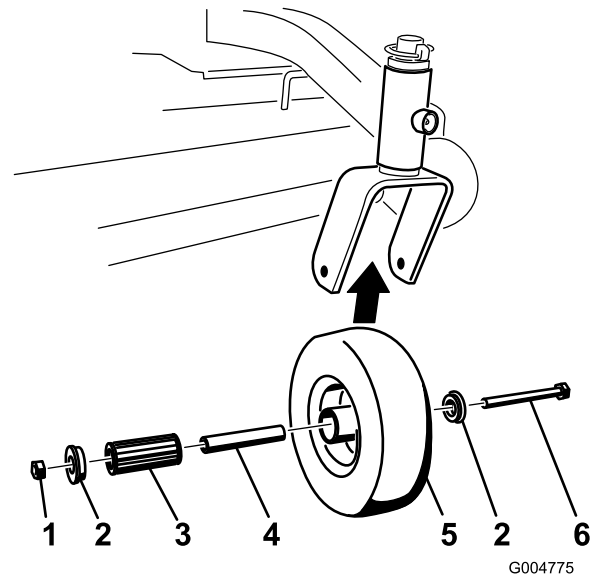

Figure 45
- Remove one bushing, then pull the spanner bushing and roller bearing out of the wheel hub (Figure 45).
- Remove the other bushing from the wheel hub and clean any grease and dirt from the wheel hub (Figure 45).
- Inspect the roller bearing, bushings, spanner bushing and inside of the wheel hub for wear. Replace any defective or worn parts (Figure 45).
- To assemble, place one bushing into the wheel hub. Grease the roller bearing and spanner bushing and slide them into the wheel hub. Place the second bushing into the wheel hub (Figure 45).
- Install the caster wheel into the caster fork and secure with the wheel bolt and locknut. Tighten the locknut until the spanner bushing bottoms against the inside of the caster forks (Figure 45).
- Remove the locknut and wheel bolt holding the caster wheel to the caster fork (Figure 45).